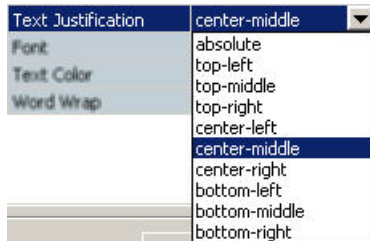

FIG. 199 Properties window - Text Justification
1. Click the arrow button in the **Text Justification** Property (FIG. 199) to open the drop-down (default = center-middle).